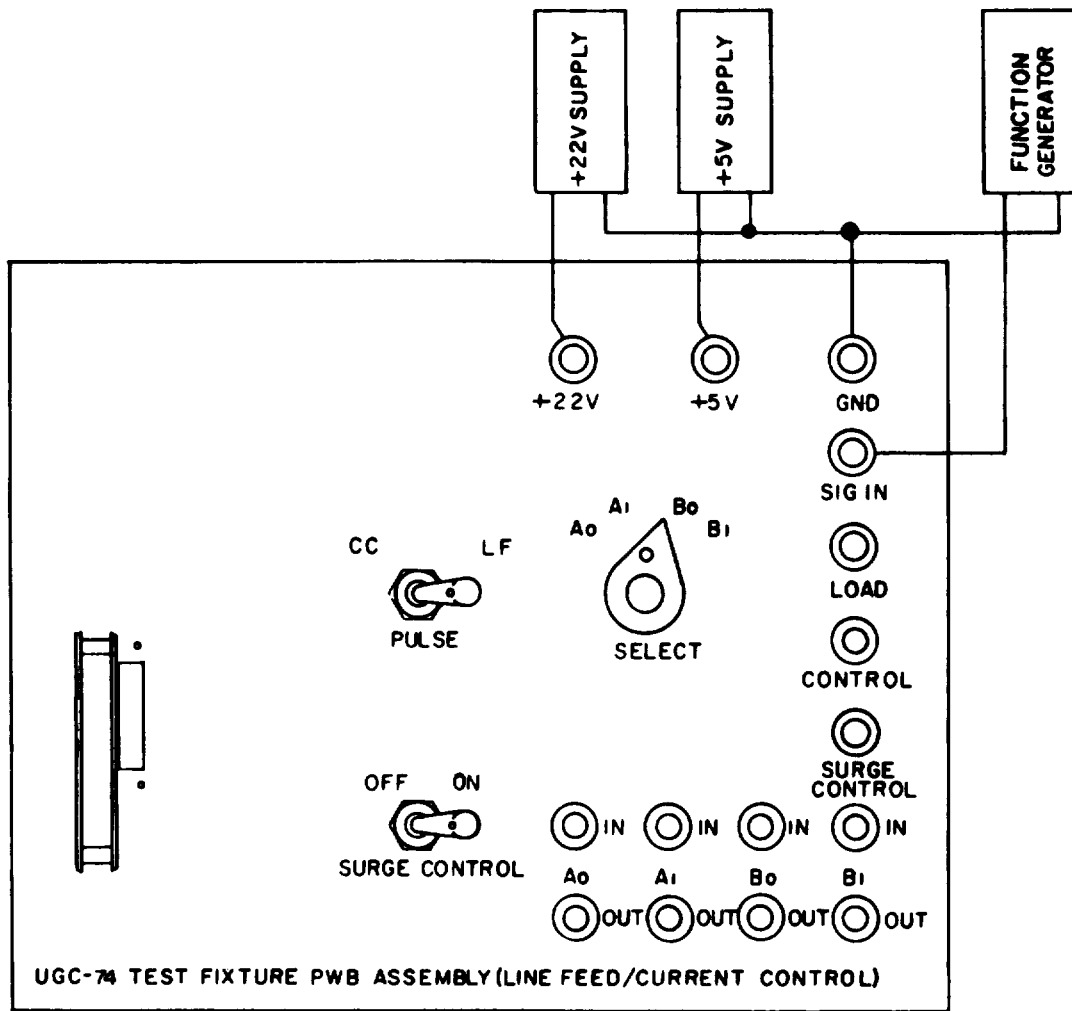

Figure 6-11. LINE-FEED (MOTOR DRIVE) CURRENT CONTROL BOARD ASSEMBLY TEST SETUP
- c. **TEST SETUP PROCEDURE FOR LINE-FEED (MOTOR DRIVE) CURRENT CONTROL BOARD ASSEMBLY. (See figure 6-11. )**
- Set test fixture SURGE CONTROL switch to OFF position (opens circuit to pin H and SURGE CONTROL (TP)).